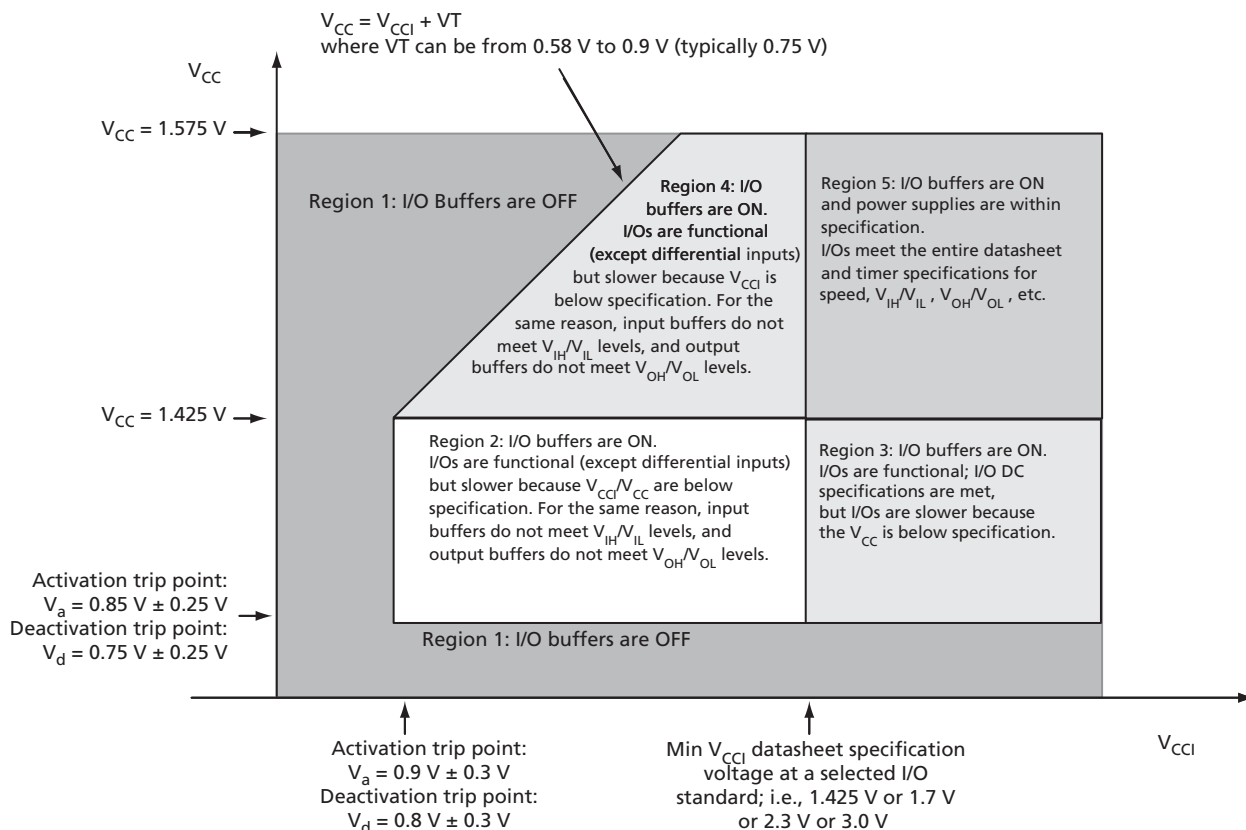
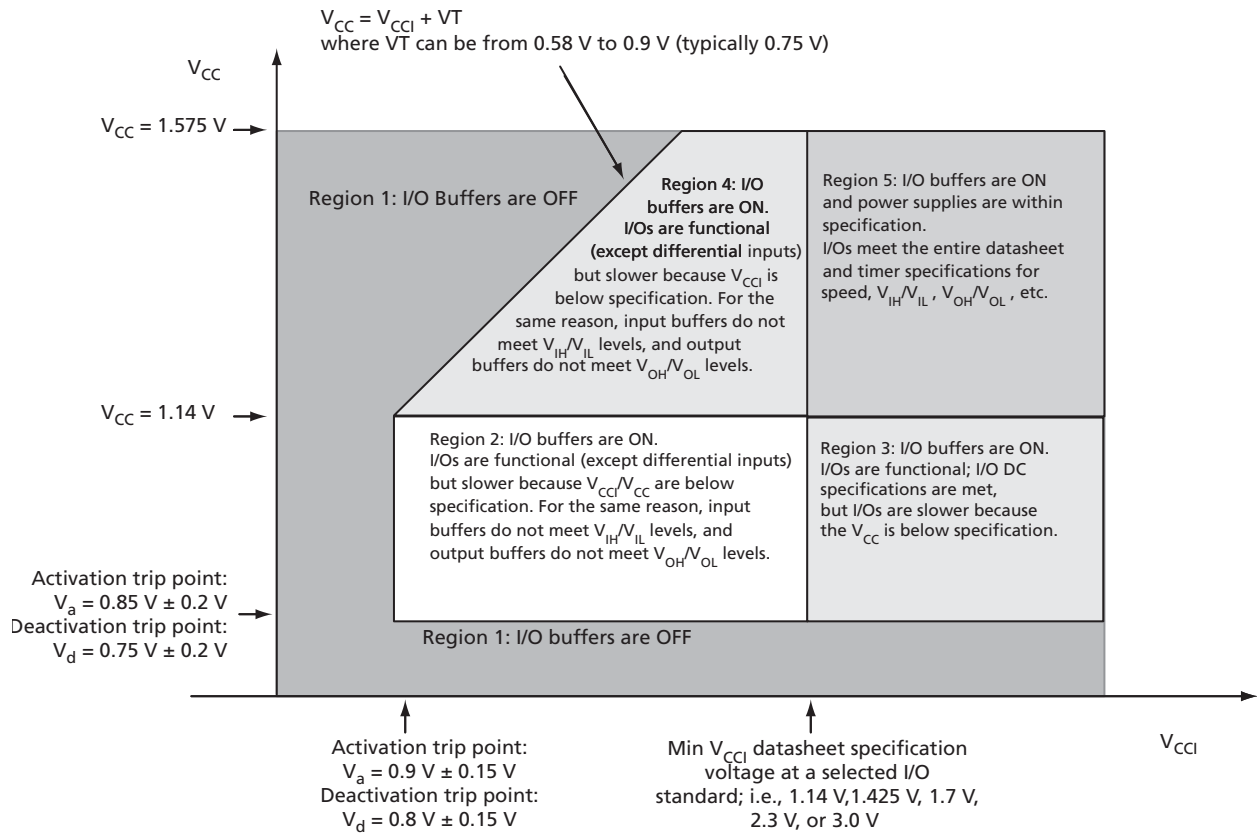

Figure 2-1 • V5 Devices – I/O State as a Function of V_{CCI} and V_{CC} Voltage Levels
Figure 2-2 • V2 Devices – I/O State as a Function of V_{CCI} and V_{CC} Voltage Levels
Sophisticated power-up management circuitry is designed into every IGLOO nano device. These circuits ensure easy transition from the powered-off state to the powered-up state of the device. The many different supplies can power up in any sequence with minimized current spikes or surges. In addition, the I/O will be in a known state through the power-up sequence. The basic principle is shown in Figure 2-1 on page 2-4.
1. V_{CC} and V_{CCI} are above the minimum specified trip points (Figure 2-1 and Figure 2-2 on page 2-5).
Actel recommends using monotonic power supplies or voltage regulators to ensure proper power-up behavior. Power ramp-up should be monotonic at least until V_{CC} and V_{CCPLX} exceed brownout activation levels (see Figure 2-1 and Figure 2-2 on page 2-5 for more details).